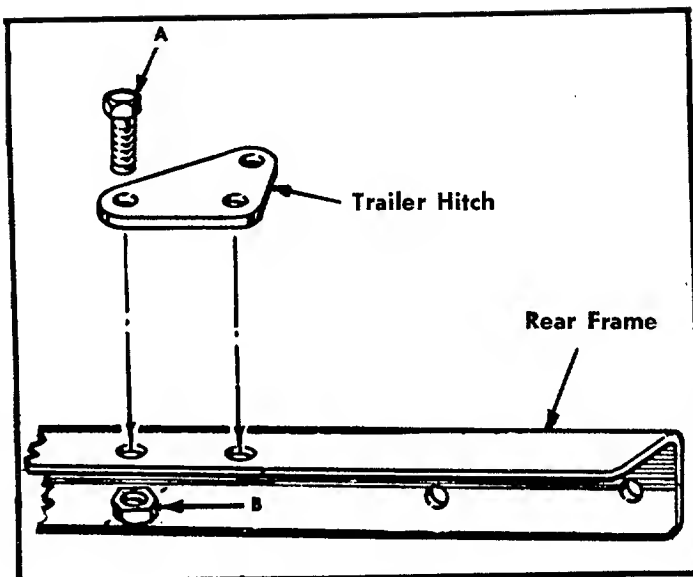

FIGURE 5. TRAILER HITCH
Step 9. Position the trailer hitch on the center of the rear frame section and fasten with bolts A and nuts B. See figure 5.